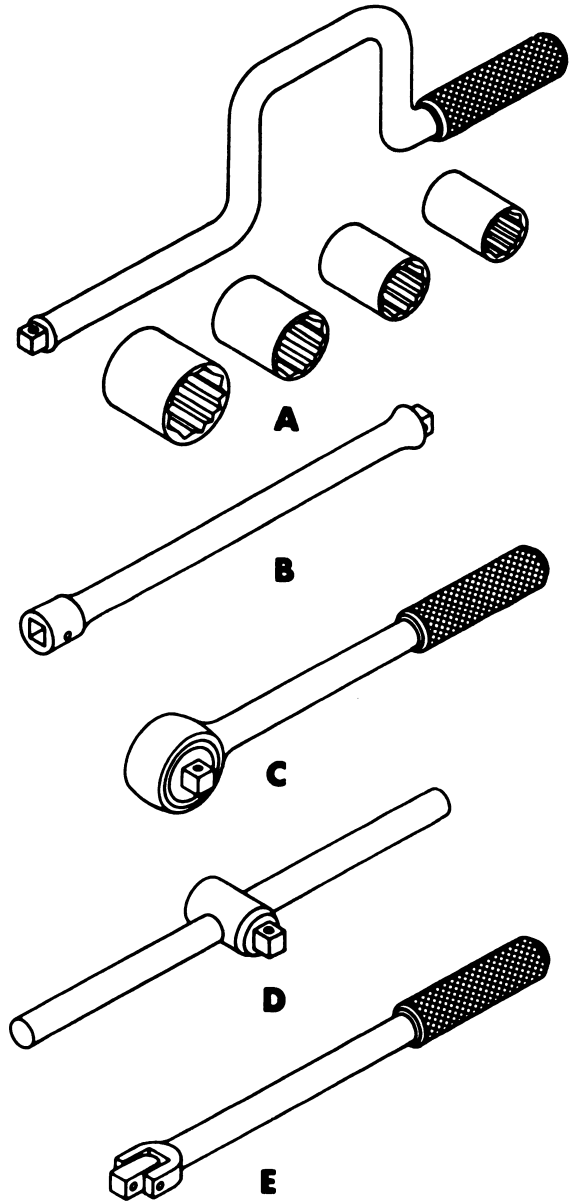

Figure 7-14. Socket wrenches.
the wrench from the nut. Socket wrenches are used with a variety of drives, such as the ones illustrated in figure 7-14: (A) speed handle, (B) extension, (C) ratchet handle, (D) T-handle, and (E) hinged handle or breaker bar.